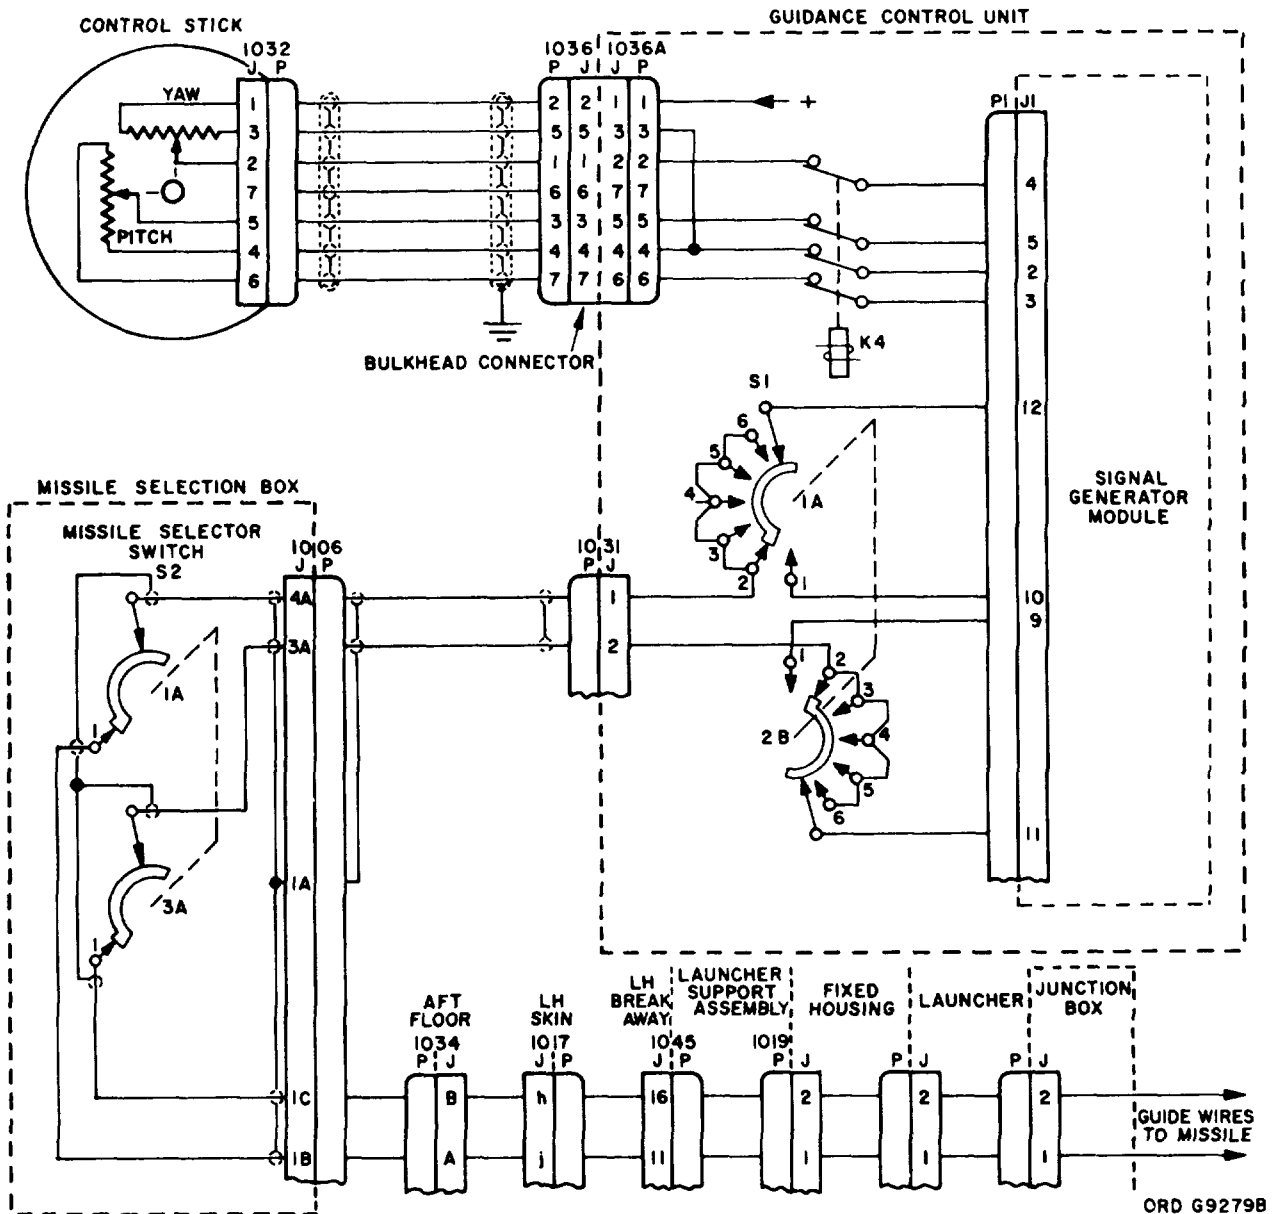

Figure 14. Guidance after firing (functional schematic).
18. Guidance After Firing (fig. 14)